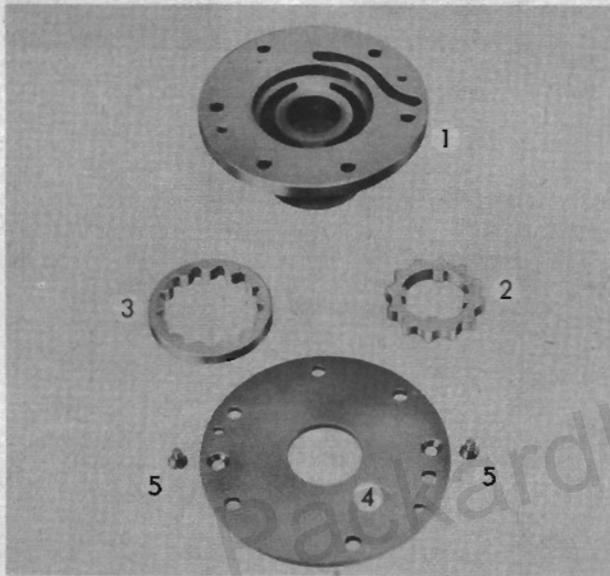

FIG. 346
Remove the two (2) Allen head screws (5, Fig. 346) from the rear pump cover plate and remove the